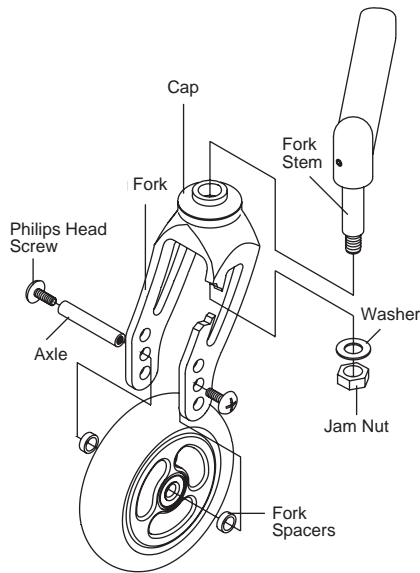

Figure 1
**Note:** The following instructions apply with respect to all 3", 4", 5" and 6" front casters. See Figure 1.
1. Remove the two Phillips head screws and axle that secure the front caster to the fork. **Note:** It will be necessary to use one Phillips head screw driver to hold one screw in place and a second screw driver to loosen the other screw. See Figure 1.
2. Loosen and remove the jam nut and washer that secures the fork to the fork stem. See Figure 1.